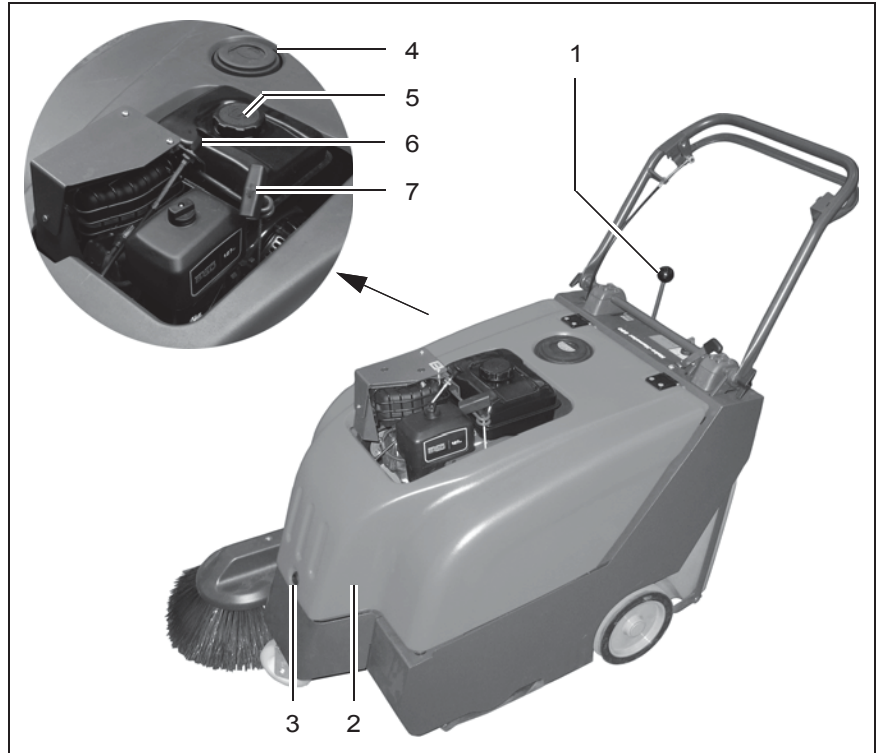

Fig. 7
Unscrew the fuel tank cap (Fig. 7/5) and fill approx. 2.5 l gasoline. Screw the fuel tank cap back on.
### Side brush lever (Fig. 7/1)
### Hood with lock (Fig. 7/2)
The hood should only be opened for maintenance and repair work. In this case, unlock the lock (Fig. 7/3) using a square wrench and pivot the hood up.
### Bypass flap (Fig. 7/4)
### Fuel tank cap (Fig. 7/5)
### Choke (Fig. 7/6)
### Recoil starter (Fig. 7/7)
2. Pull out the choke (Fig. 7/6) in the case of a cold start.
3. Pull the recoil starter cord (Fig. 7/7) until the starter clutch perceptibly
engages (slight resistance) and then pull the starter cord (Fig. 7/7) hard and fast to start the engine.
4. Release the starter cord (Fig. 7/7) and let it recoil back into the housing.
5. Then push the choke (Fig. 7/6) back in, slowly.